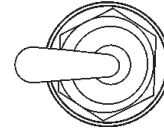

Figure 25. Pumping Control Switch (Remote)
2. On the control box, place the pumping control switch in the **REMOTE ON** position (Figure 25)